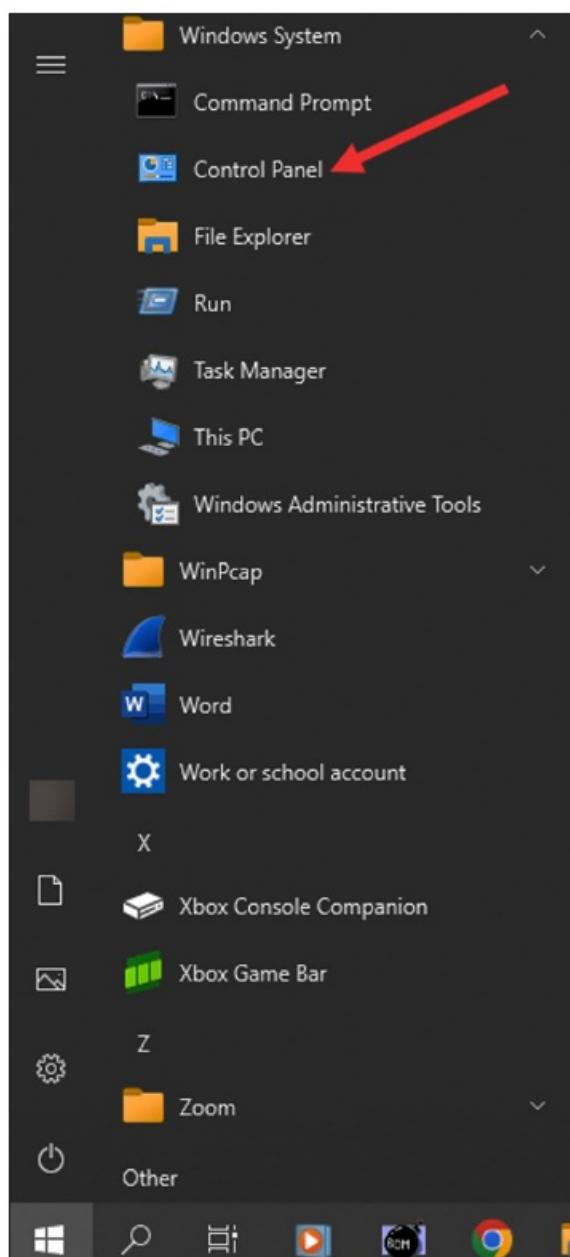

Figure 26. The Windows Start Menu.
- **STEP 2.** Click on the Start button, and select the Control Panel option. See Figure 26.